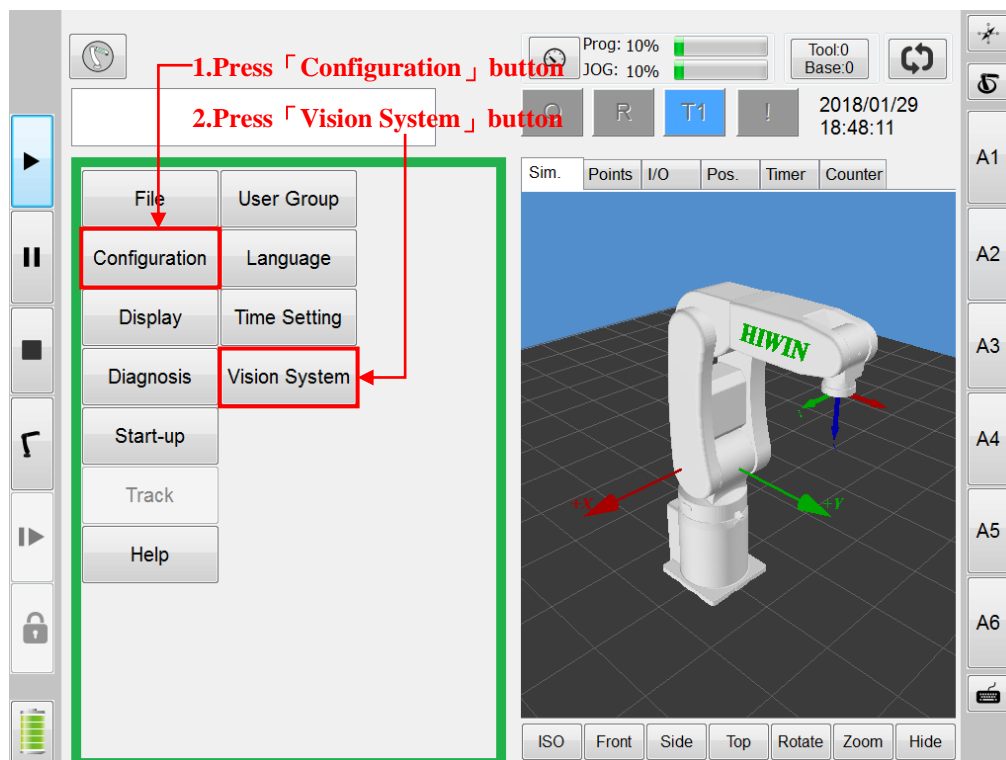

Figure 5-1 Open the "Vision System" menu
1. As shown in Figure 5-1, in the main menu, first press the "Configuration" button, then press the "Vision System" button.